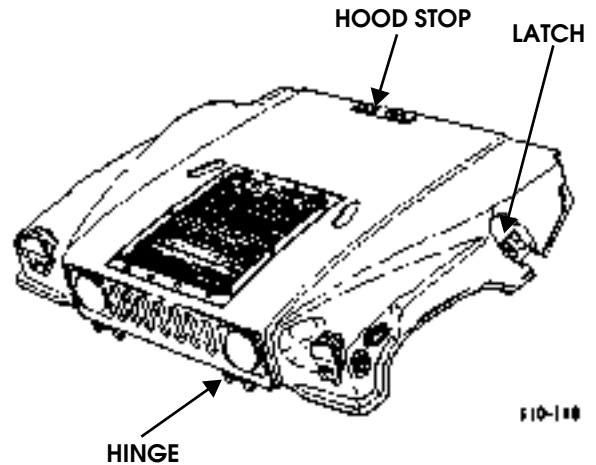

Figure 10-11: Hood Stop and Hinge
3. If total penetration crack greater than 1 in. (25.4 mm) exists in critical areas: hinges, latches, or hood stop areas, repair immediately (Figure 10-11).